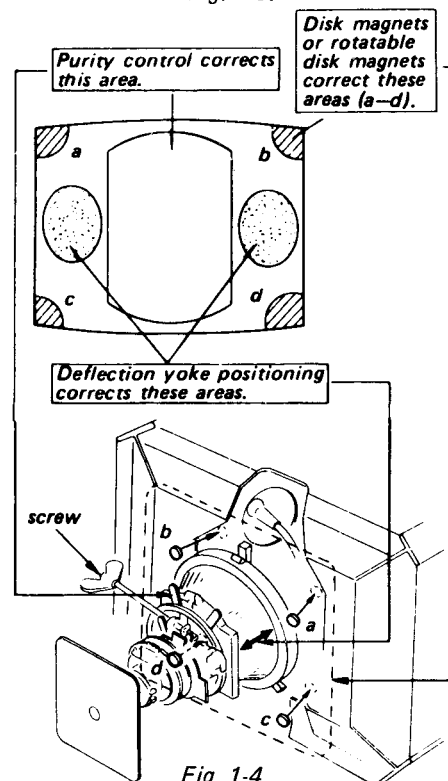

Fig. 1-4.
10. Check if mislanding appears at corners a – d as shown in Fig. 1-4. If mislanding is observed, correct it as shown in Fig. 1-4.